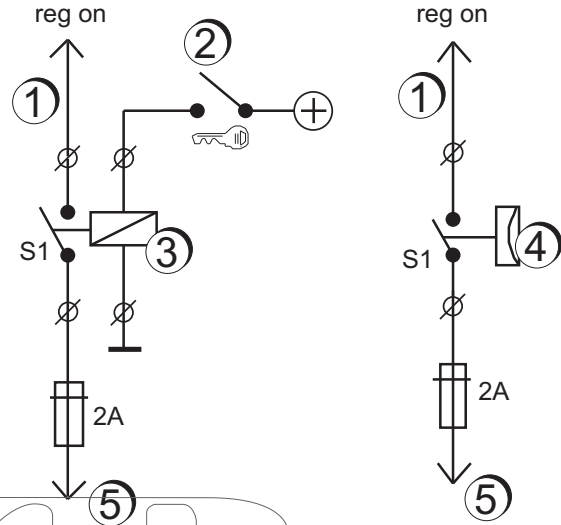

Figure 7: Connection of the ignition switch (left) and an independent (ungrounded) oil pressure switch with normally open contact (right)
- 5 See reference ⑤. The brown cable of the cable assembly must be connected to the [reg on] terminal of the Alpha Pro II regulator. Connect the other wire end through a switch (“S1”) with normally open contacts to the positive (+) pole of the battery as indicated. You can use the ignition switch (figure 7) or preferably an independent (ungrounded) oil pressure switch (figure 8). Use a 2.5mm² cable. This cable must also be secured by a 2 Amp fuse. As the [reg on] terminal is also used for voltage measurement, this cable should not be shared with other loads.